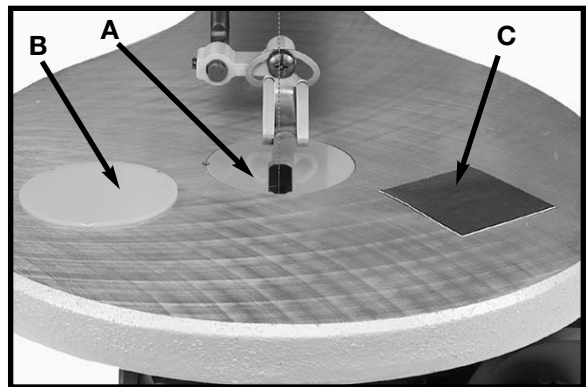

Fig. 9
A table insert blank (B) Fig. 9, is supplied as standard equipment with your scroll saw and can be used when cutting very small workpieces to give added support to the bottom of the workpiece. Cut a slot into the blank and replace the standard insert (A) with the blank (B). The slot cut into the blank (B) will only be as wide as the blade giving maximum support to the bottom of the workpiece. Adhesive backed spacer pads (C) are also supplied for adjusting the table insert height relative to the table surface. Place three pads an equal distance apart on a cleaned surface to be applied to the blank insert. Pads can be stacked in order to achieve desired insert height.